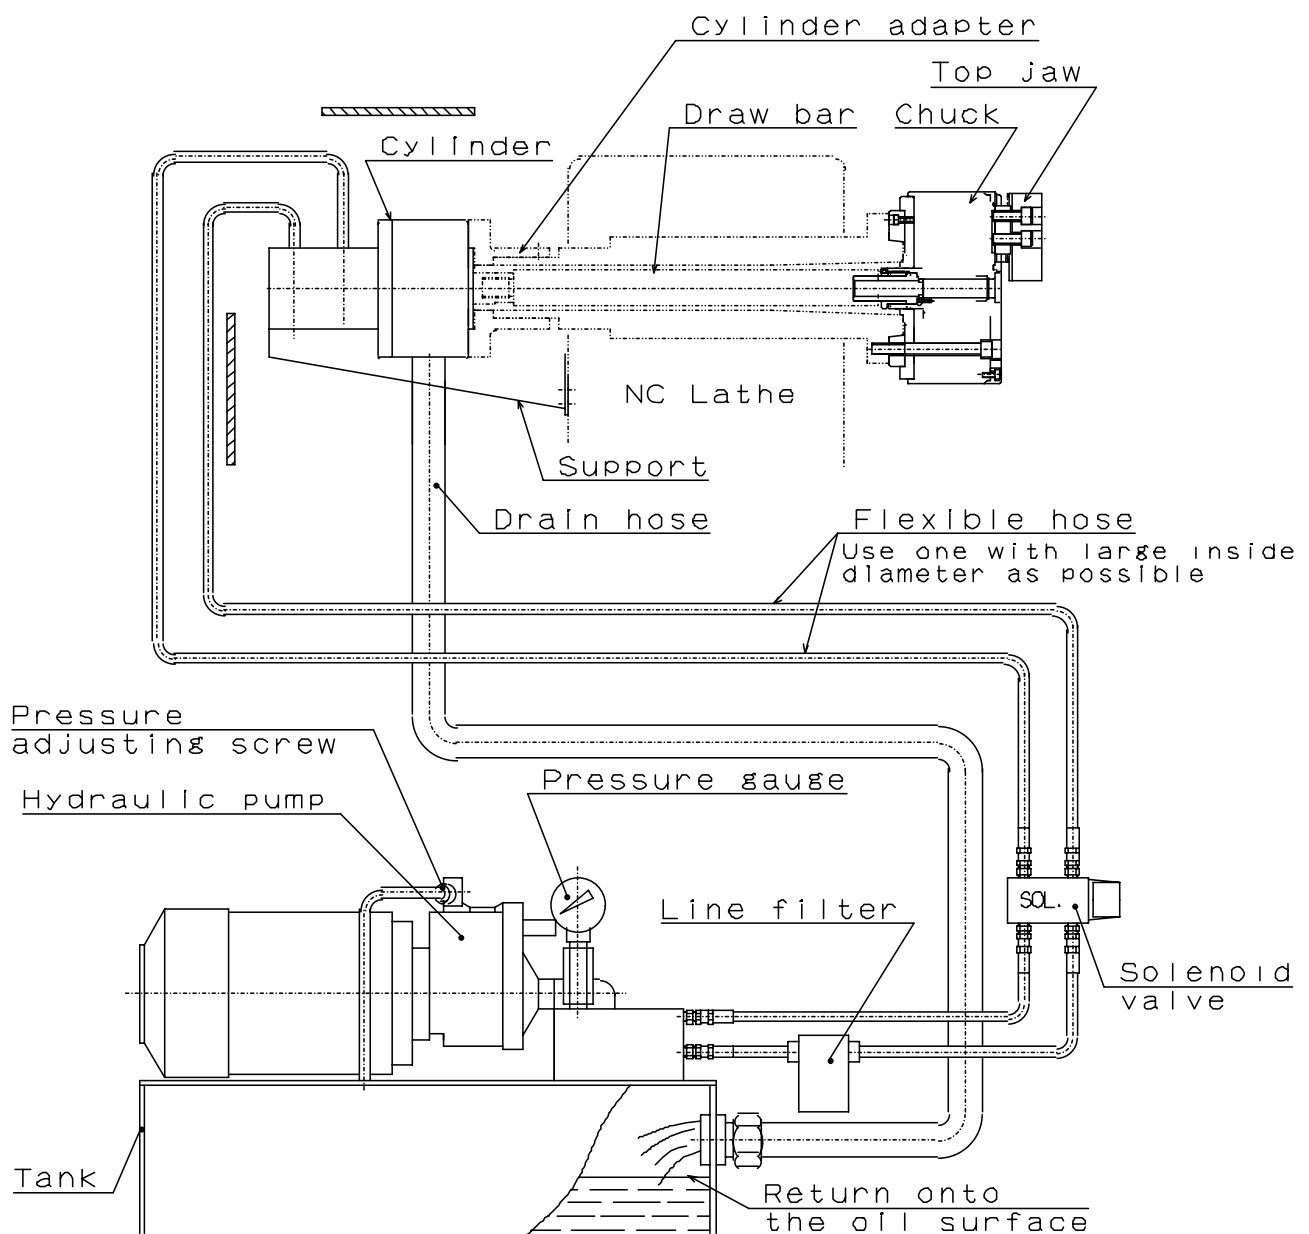

Fig.30
- **The end of the hose is physically above the oil level. (Refer to Fig.30)**